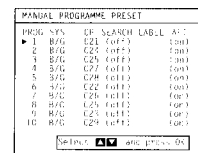

Fig. 24.
- 3 Select Manual Programme Preset with  $\Delta$ + or  $\nabla$ - and press OK. The MANUAL PROGRAMME PRESET menu appears. (See Fig. 24.)